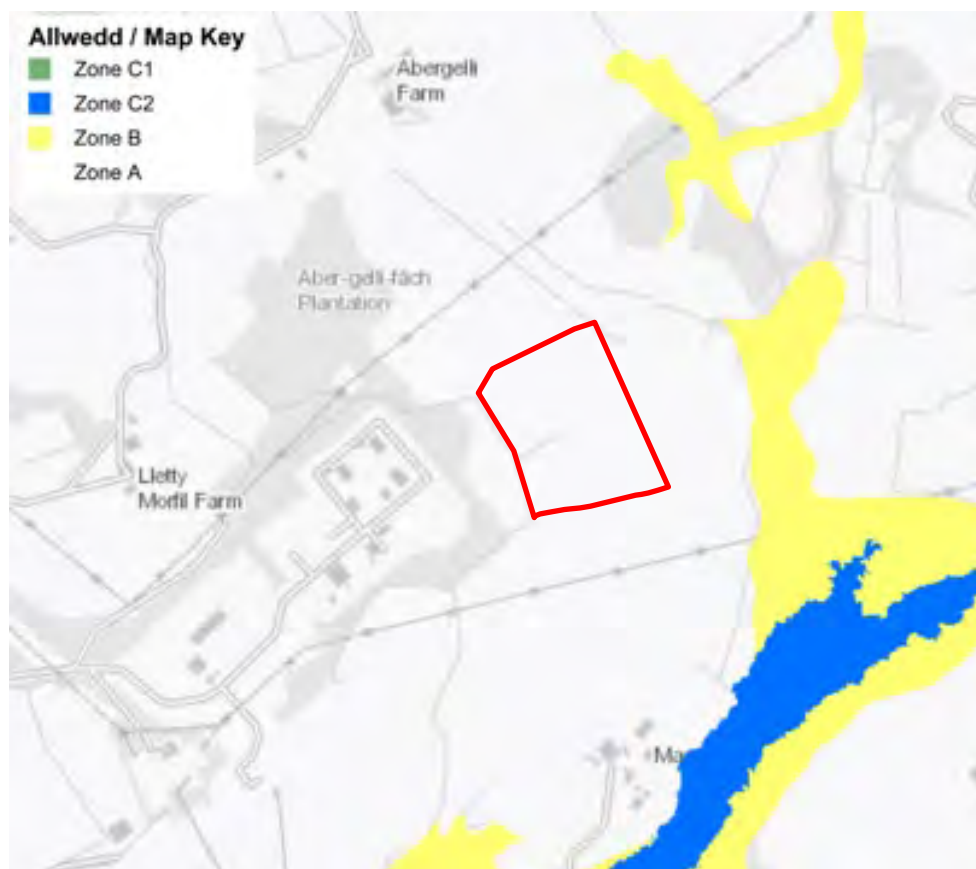

Figure 1. NRW Development Advice Map
1.1.1 The site is located at National Grid Reference NGR E 265322, N 201125, the location of the site is shown on Figure 1. As shown on Drawing No. 230116 'Topographical Survey' the site is generally sloped to the southwest with ground levels ranging from approximately 84mAOD to 89mAOD. The site existing access is located adjacent to the southern boundary of the site.